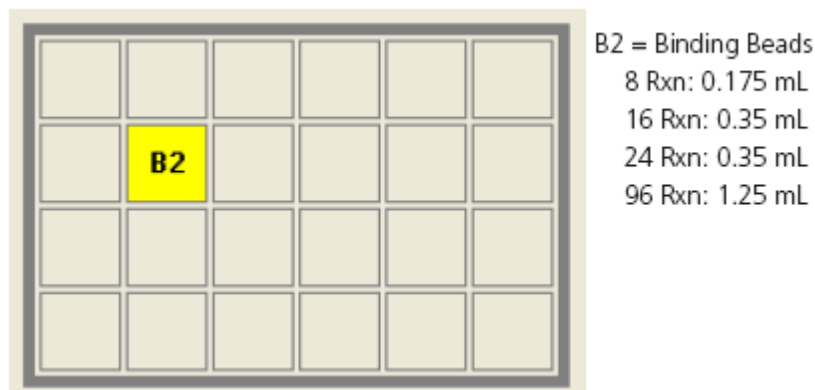

Figure 44 24-well plate for Part 4 deck setup.
- Figure 44— Pipette the correct reagent volumes in the 24-well plate